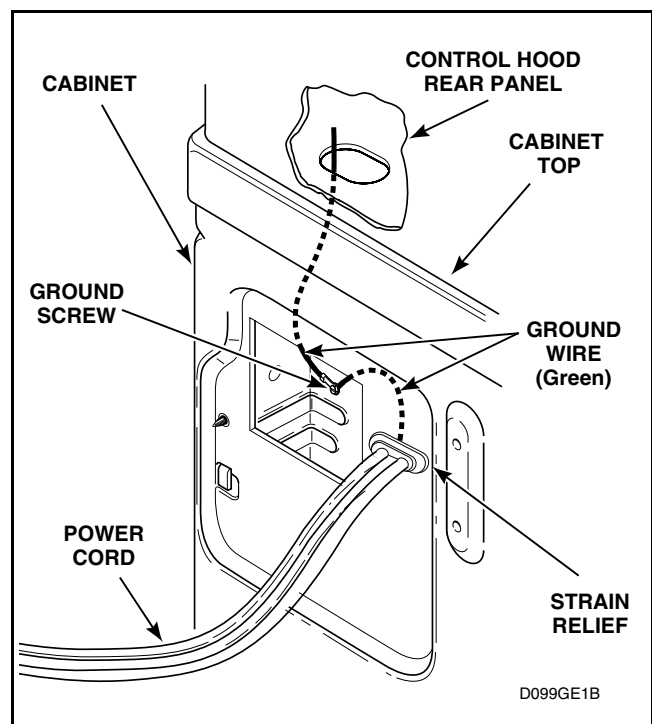

Figure 58
- (1) Remove access plate on rear of cabinet.
- (2) Remove strain relief. Refer to *Figure 58*.
- (3) Remove screw holding power cord ground wire to rear bulkhead. Refer to *Figure 58*.
- (4) Disconnect moxex plug and remove power cord from rear of dryer cabinet.